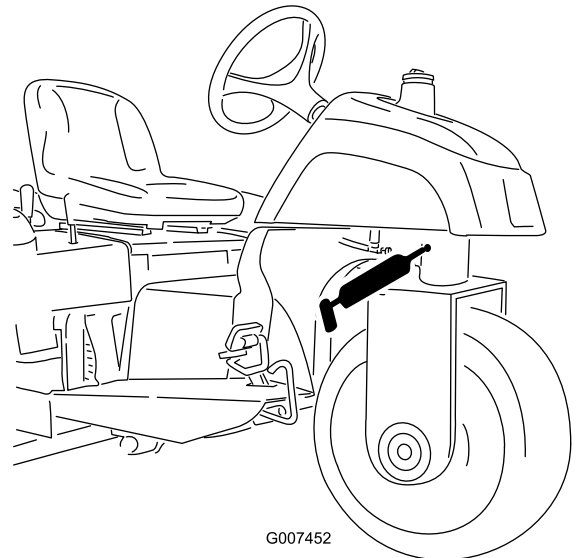

Figure 22
- 1 Steering pivot bearing (Figure 22).